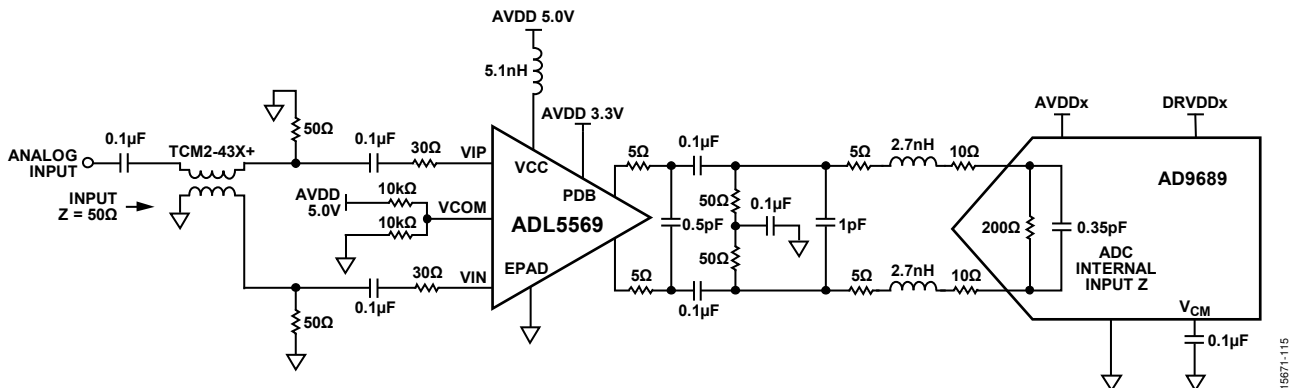

Figure 49. Wideband 3.2 GHz Bandwidth AC-Coupled ADC Interfacing Example: ADL5569 Driving the AD9689
A wideband data acquisition system using the ADL5569 together with the AD9689, a dual 14-bit ADC, was developed and tested as shown in Figure 49 for ac-coupled applications. The resistor capacitor (RC) filter after the amplifier works with the pole formed by the ADC input capacitance to attenuate the broadband noise and out of band harmonics generated by the amplifier. The RC filter also blocks sharp switching pulses, that is, charge injection from the ADC internal sampling circuitry, from reaching the amplifier outputs and creating nonlinear effects. An additional band-pass filter, specific to the system rejection requirements, is also needed in front of the ADL5569 amplifier to prevent unwanted signals from compressing the amplifier as well as from reaching the ADC. This filter is usually added during bench testing.